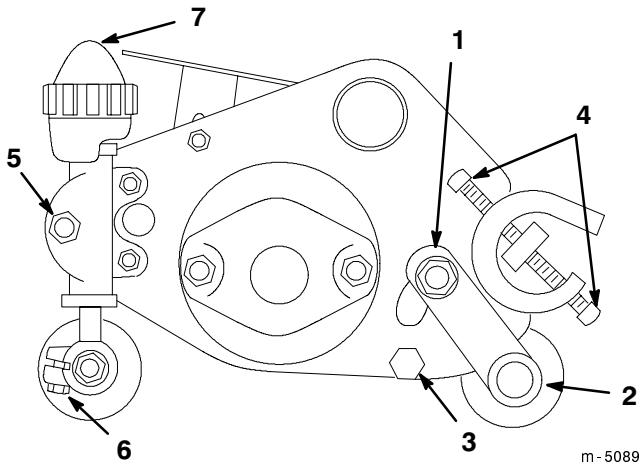

Figure 10
1. Remove the capscrew and nut anchoring the rear roller height-of-cut bracket to the side plate on both ends of the cutting unit (Fig. 10).
2. Loosen the Allen set screws anchoring the roller shaft (Fig. 10).
4. Remove the bedbar mounting bolts from each end of the cutting unit (Fig. 10).
5. Loosen the bedknife adjusting screws at each end of the cutting unit (Fig. 10). The bedknife assembly can then be removed by rotating it away from the reel.
1. Loosen the locknuts securing the height-of-cut adjusting rods at both ends of the cutting unit and the roller shaft clamp bolts (Fig. 10).
2. Turn the height-of-cut adjustment knobs until they are disconnected from the height-of-cut adjusting rods (Fig. 10). The knobs are captivated on the upper washer face of the height-of-cut clamp.